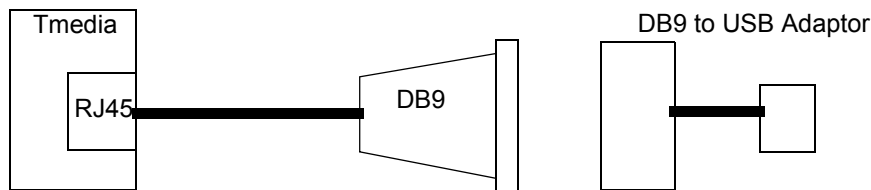

Figure 5.2 Conceptual View of a Serial Connection from the TMG800 to a Computer
2. If your computer's serial port features a DB9 connector, use the DB9 to RJ45 adapter supplied with your Tmedia unit. If your computer's serial port features a USB connector, you will need to provide a USB to DB9 adaptor. Refer to figure 5.2 on page 26.